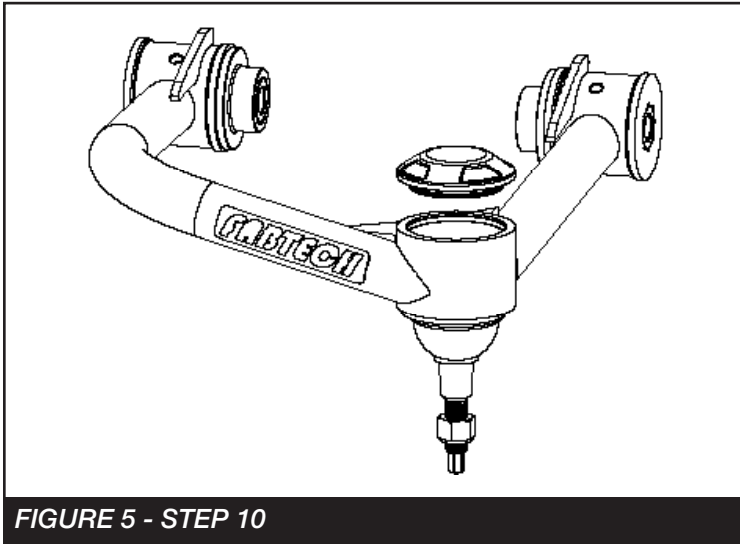

FIGURE 5 - STEP 10
10. Install FT90154 (Bearing cap). Torque the control arm pivot bolt to 148 ft-lbs **SEE FIGURE 5**